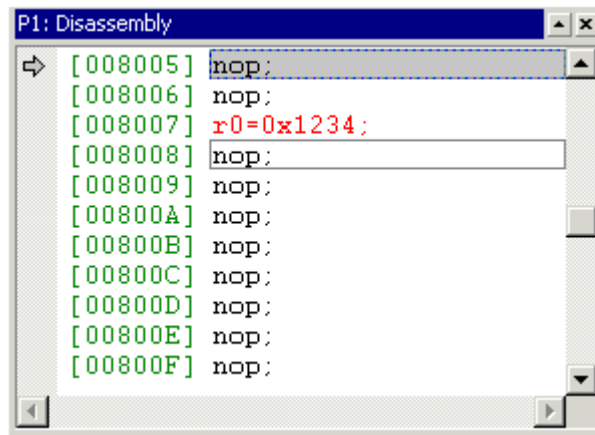

Figure 3-41. Disassembly Window: Patching a New Instruction into Processor P1's Memory
3. Type the instruction `r0=0x1234` and press **Enter**. The instruction is written into P1's memory, and the Disassembly window is updated as shown in Figure 3-41 to reflect this new instruction.